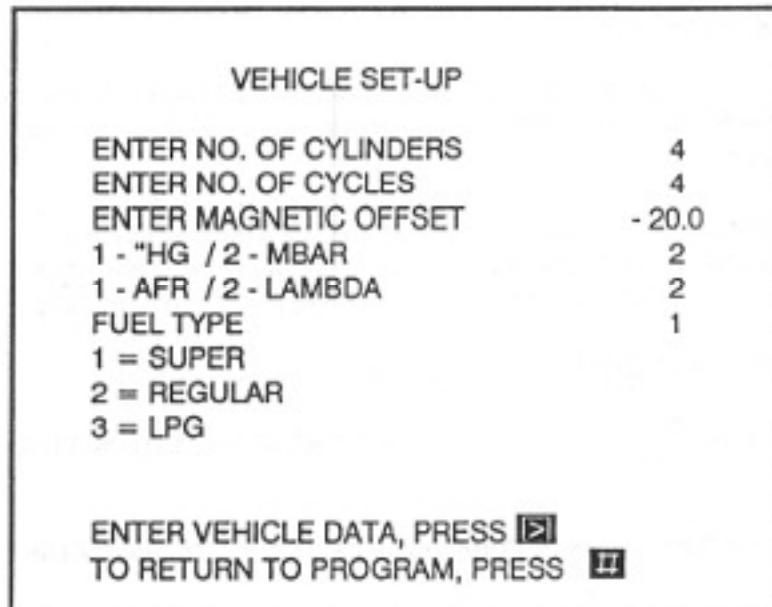

FIGURE 31. The MEA-1500 SL is automatically preset for these vehicle specifications
9. The tester is automatically set-up for 4-cylinder, 4-cycle engines, -20.0 degrees magnetic offset angle, mBar, Lambda and Super. If these set-up specifications do not need to be altered, the operator may proceed directly to the VEHICLE TEST page by pressing the **II** key. If the vehicle set-up does need to be changed, the operator may select the VEHICLE SET-UP page (Figure 31) by pressing the **EX** key in the VEHICLE TEST pages. (If the **P** key is pressed the VEHICLE SET-UP page is entered by pressing the number 1 key on the remote control.